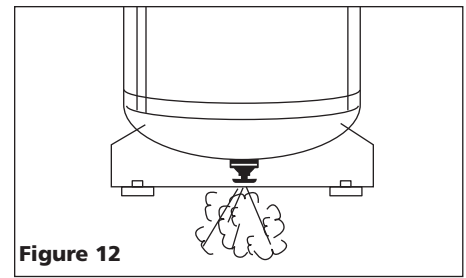

Figure 12
2. Drain Tank. With compressor shut off and pressure released: Drain moisture from tank by opening drain valve underneath tank (See Figure 12).